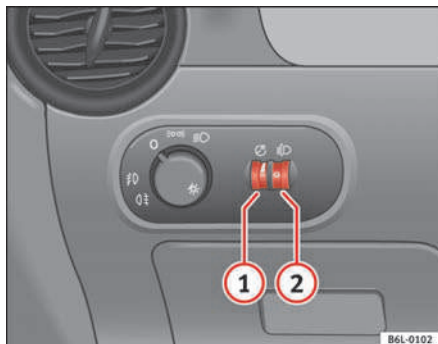

Fig. 57 Instrument panel: regulation for instrument and switch illumination and headlight range control
When the headlights are switched on, the brightness of the instruments and switch lighting can be regulated to suit your requirements by turning the thumb wheel ⇒ fig. 57 ①.